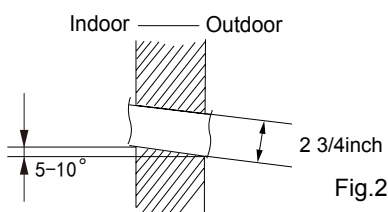

Fig. 2
(2) Open a piping hole with the diameter of 2 3/4inch on the selected outlet pipe position. In order to drain smoothly, slant the piping hole on the wall slightly downward to the outdoor side with the gradient of 5-10°. (As show in Fig.2)